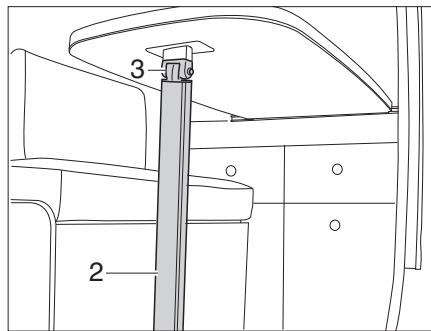

Fig. 34 Suspension table with fold-out leg
- Unlock the table leg (Fig. 34,2) at the hinge and fold it in.
- Fold out the table leg (Fig. 34,2) and place it on the floor of the Campster.